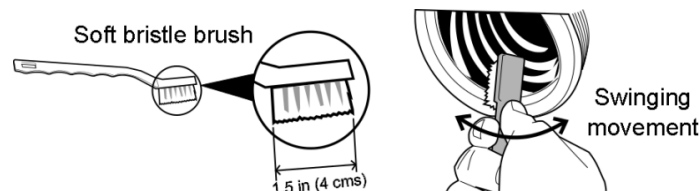

FIG. 4 TIP FOR CLEANING ROUGHNESS PARTS
2. Using a soft bristle brush not provided -**See Fig 4**, clean with adequate detergent each component, specially inside headstock (13) to eliminate waste and debris of food.
5. It is important after doing this procedure, to lubricate the knife (18), plate (19), worm (16) and if it possible the inner of the headstock with the included mineral oil or convectional cooking oil, it helps to protect tin coating and prevent the appearance of corrosion.